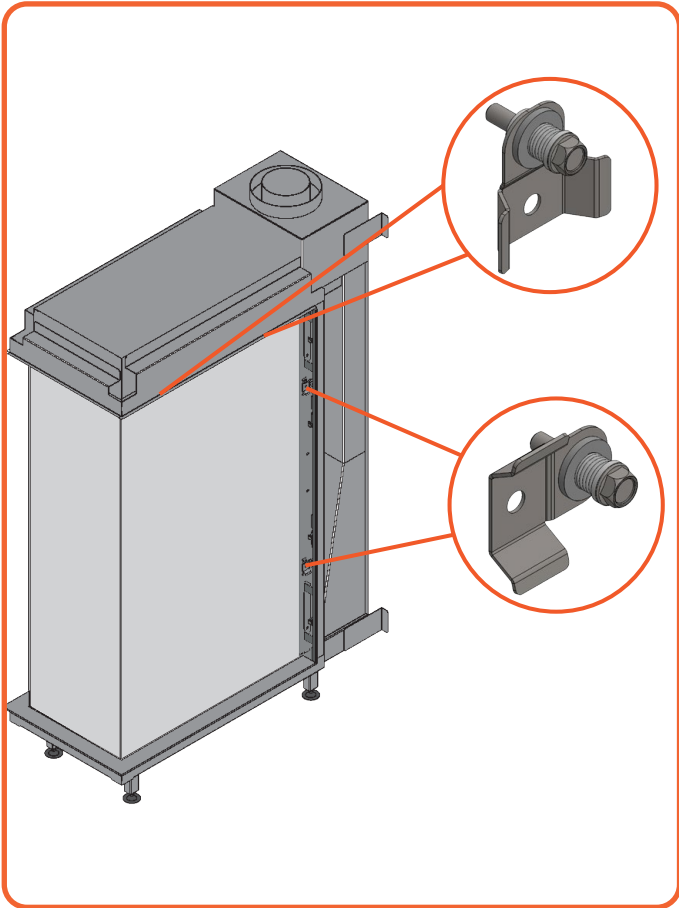

Figure 12.6 | Rotate glass clamps
- Rotate the glass clamps to free the glass, see Figure 12.6. The Sky S has only 1 clamp on the side instead of two.